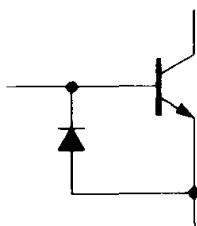

Figure 2.10. A diode prevents base-emitter reverse voltage breakdown.
**2.** Always remember that the base-emitter reverse breakdown voltage for silicon transistors is small, quite often as little as 6 volts. Input swings large enough to take the transistor out of conduction can easily result in breakdown (with consequent degradation of  $h_{FE}$ ) unless a protective diode is added (Fig. 2.10).